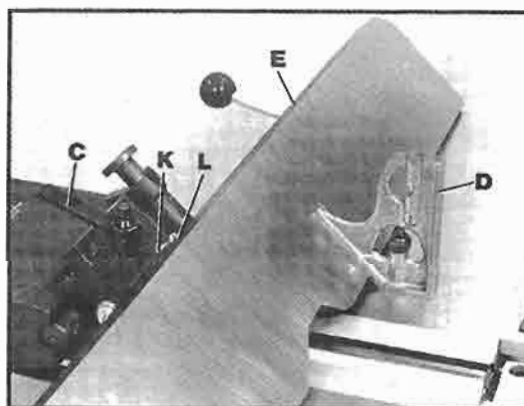

Fig. 24
To check the accuracy of the positive stops at the 45 degree outward angle of tilt, position the fence (E) Fig. 24, outward as far as possible. Use a combination square (D) and check to see if the fence is tilted outward accurately at 45 degrees. If an adjustment is necessary, proceed as follows:
1. Loosen lockhandle (C) Fig. 24.
2. Loosen locknut (K) Fig. 24, and turn adjustment screw (L) until the fence (E) is set at 45 degrees with the table surface.
3. Retighten locknut (K) Fig. 24, and lockhandle (C).